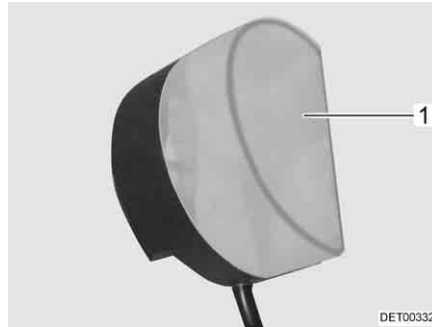

Fig. 231 Wardrobe light
- Press the light covering (Fig. 231,1) lightly together and remove it.